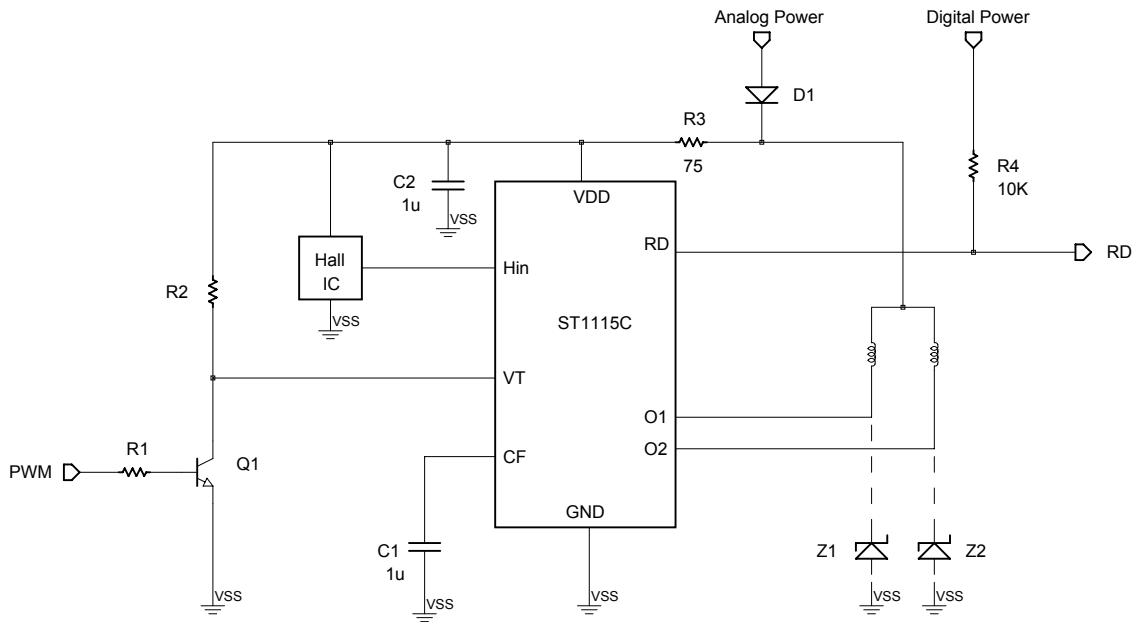

Figure 5. Fan speed control via the PWM command.
3. Fan speed control by the PWM command —Refer to Figure 5.
- (1) Figure 5 shows the application circuit, wherein the fan speed is directly controlled by the PWM command. The BJT Q1 together with resistors R1 and R2 constitutes an inverting level shifter, which is responsible for translating the voltage level of the PWM command to the VDD voltage level of the drive IC. In this way, the voltage level of the PWM command can be very low, say, 2 Volt, for example.
- (2) For this circuit, the PWM command is active high and its frequency range is 200 Hz ~ 40 KHz. If low acoustic noise is desired, the 20 KHz~40 KHz of the PWM frequency range is recommended.